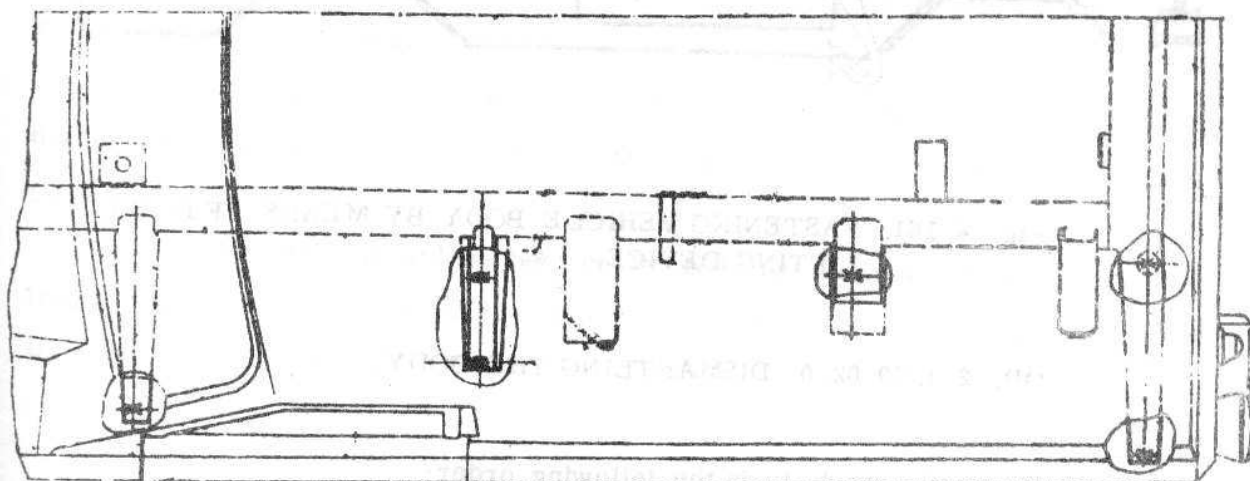

Fig. 4.160. BODY MOUNTING POINTS ON CHASSIS FRAME
- Unscrew bolts fastening the body on chassis, according to Fig. 4.160.